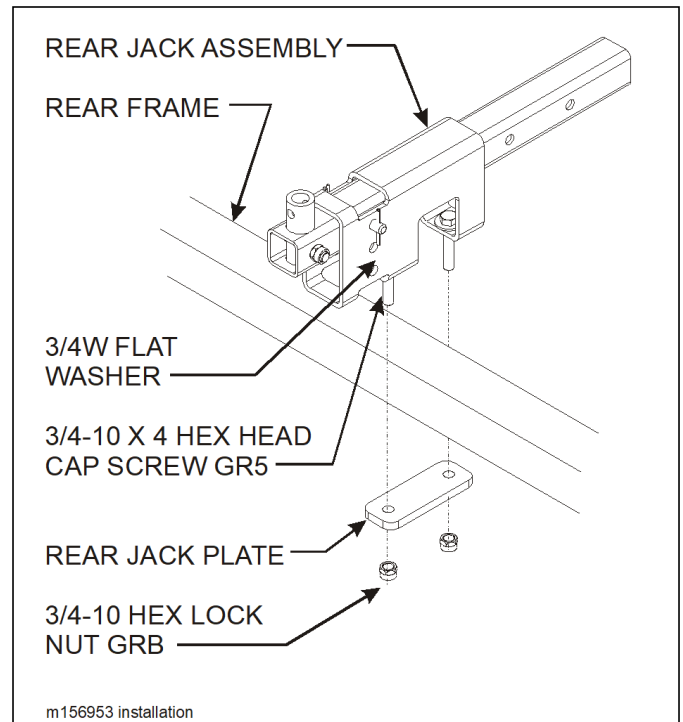

Figure 3-18: Rear Jack Installation
1. Slide rear jack assembly over rear frame of the VT Plus near the center of the frame (**See Figure 3-18.**)